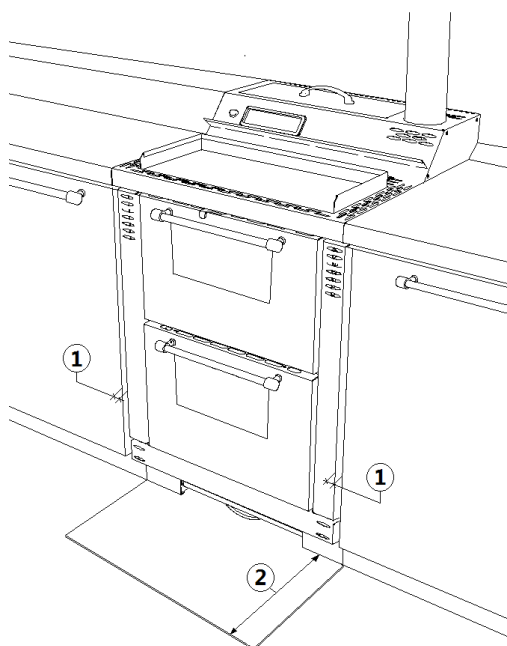

Fig. 14 - Embed cooking stove
- The stove can be inserted between cabinets, with side clearance of 10 mm (see **Fig. 14 page 15**):